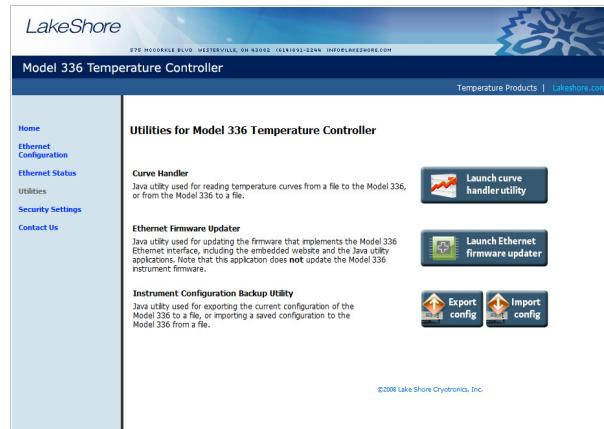

FIGURE 6-8 *Utilities page*
1. On the Utilities page in the Model 336 embedded website, click **Export config** (FIGURE 6-8).
1. On the Utilities page in the Model 336 embedded website, click Import config (FIGURE 6-8).